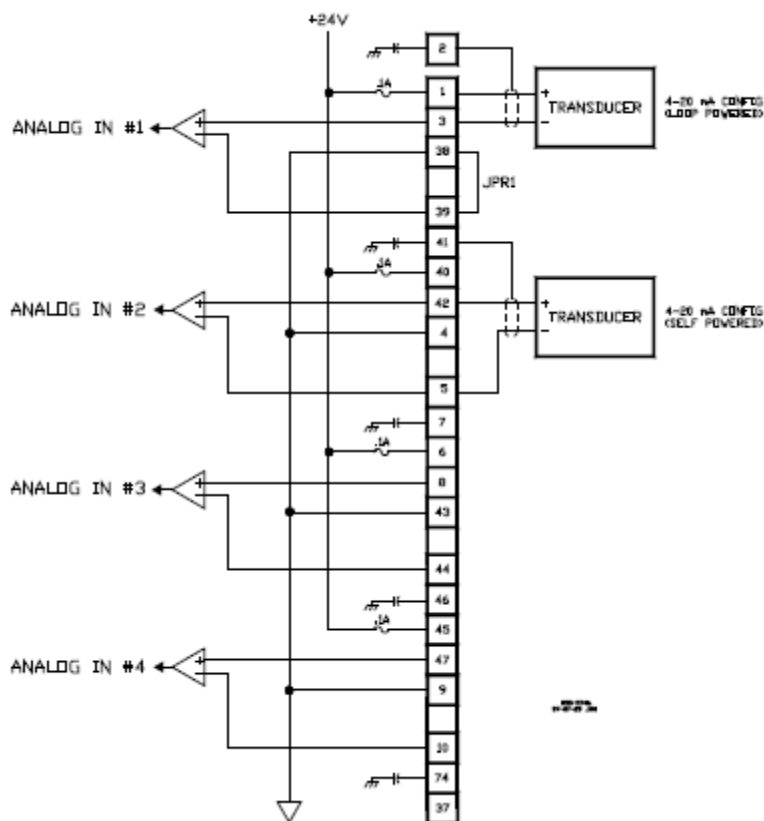

Figure 4-9. Analog Input Wiring for a 24/8 Analog FTM
- Refer to Figure 4-9 and **Appendix A** for Analog Output wiring connections on the FTMs.